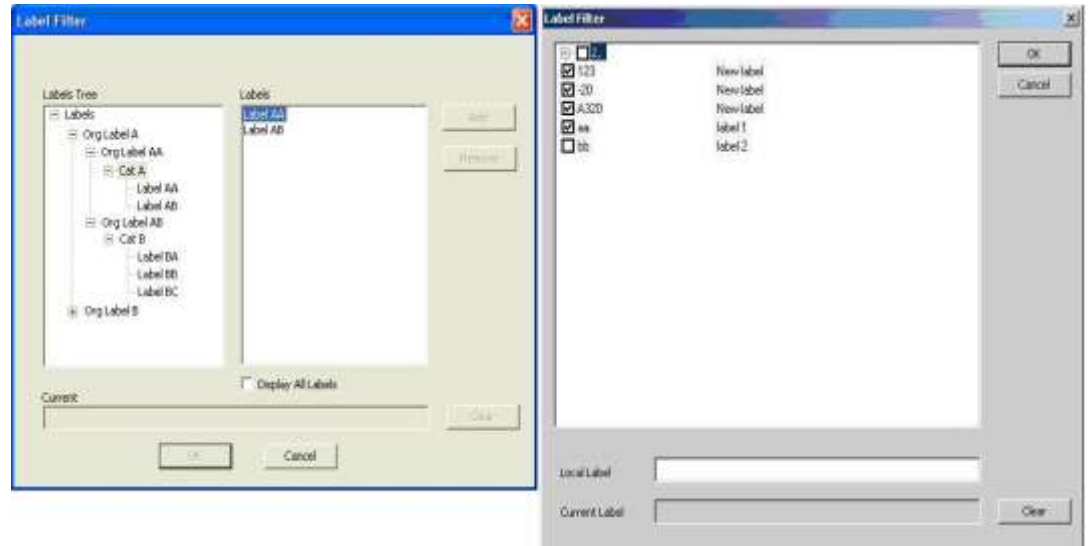

Figure 85: Label Filter Dialog with org and without org labels
3. Project filtering dialog displays the Labels/Label category within their respective structure. Please refer to the Figure 85.
- 2) Click  button next to **Label Filter**. The **Label Filter** dialog appears. In this dialog, you can see all available Label filters. *Please refer to the Figure 85.*
The Figure 85 shows the label structure with and without org label in **Label Filter** dialog, In **Label Filter** dialog with org label, the left side category